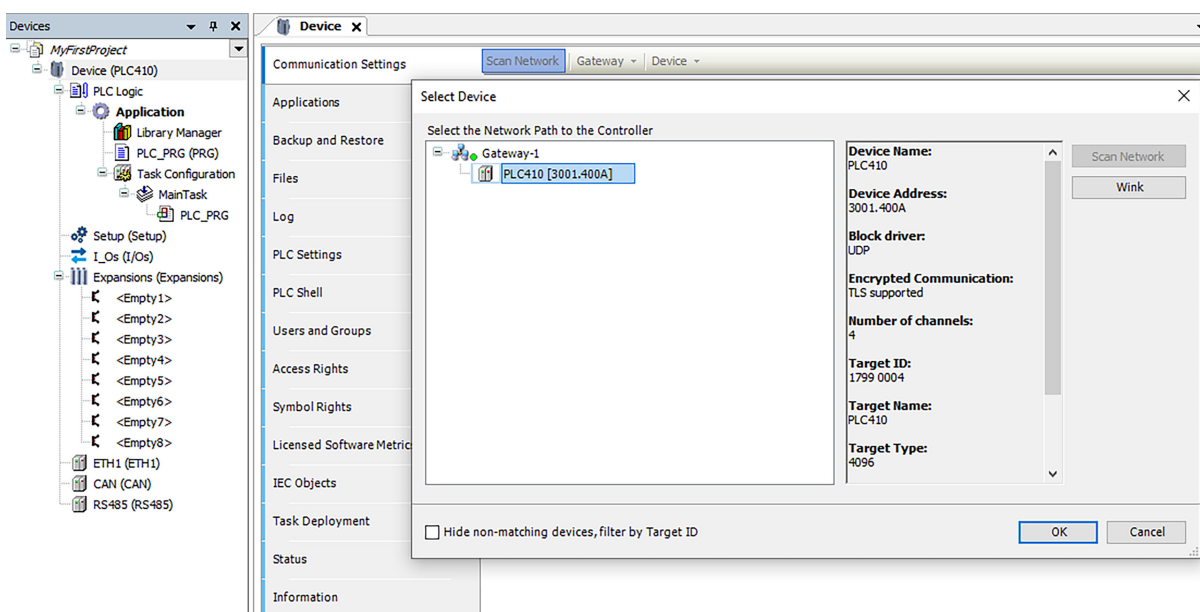

Figure 14.2: Creating a new project
- 5) To connect to the PLC410, double-click on **Device (PLC410)**. The **Communication Settings** tab will open. Click on **Scan Network** and then on **PLC410**, as shown in Figure 14.2 on page 14-2.